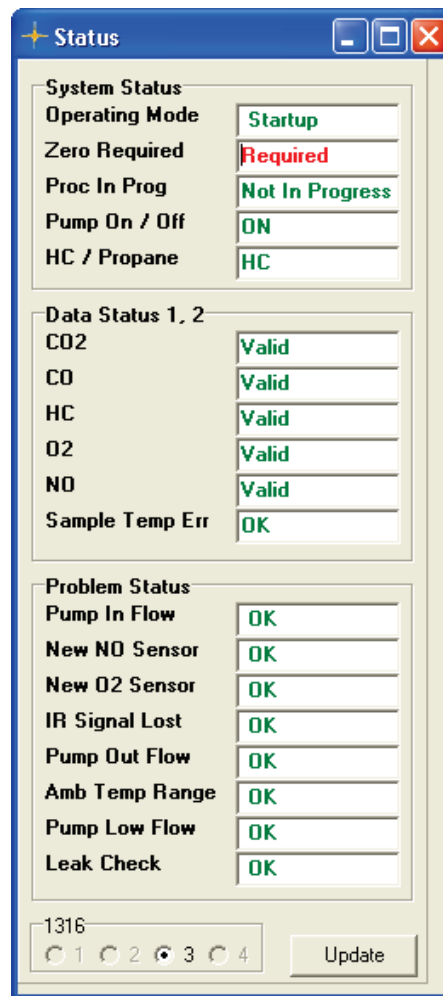

Figure 4.6. Status Window displaying Operation Mode “Start up”.
1. The Multi Gas Monitor –INNOVA 1316A-1 is in Start-Up mode, see figure 4.6, Operating Mode.